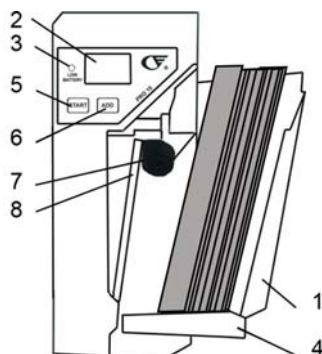

Figure 1
3.6 Press **"START"** button. The counting roller (Fig. 1-7) starts rotating and banknotes are placed onto cover (Fig. 1-1). After counting, the banknotes should be placed evenly on the cover (Fig. 1). To avoid occasional errors repeat during counting. If a banknote or several banknotes were not counted repeat counting again, see Table 3.4 and Table 3.5.